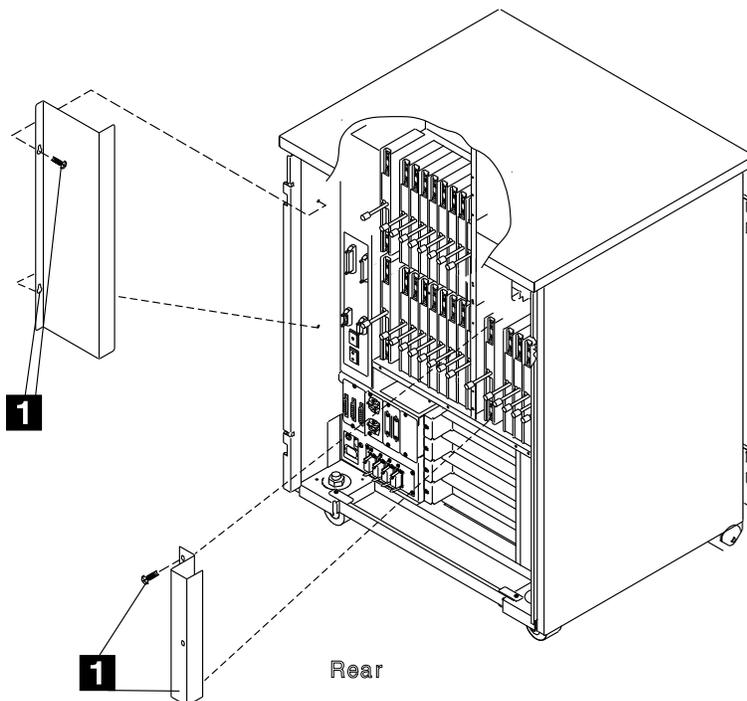

Figure 4-47. DMUX Cover
3. Remove the related DMUX cover (refer to Figure 4-47). Two screws must be removed **1**. (Two types of DMUX cover exist according to the board location.)
4. Re-install the DMUX cover with the two screws. Refer to Figure 4-47 on page 4-39.